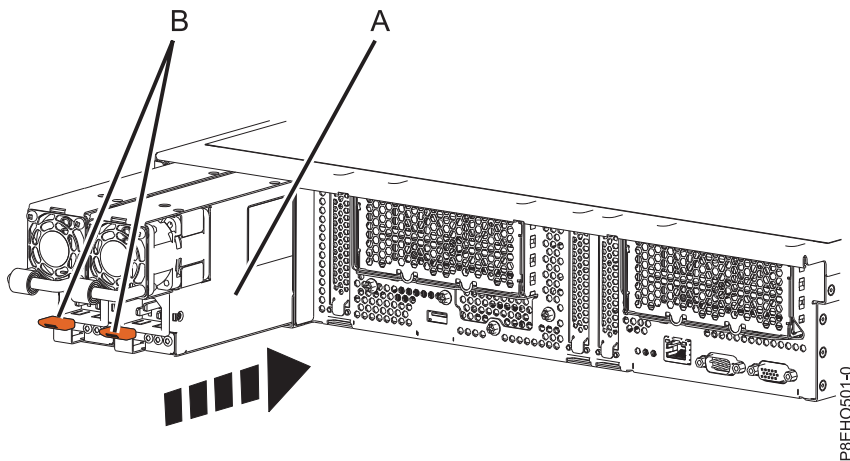

Figure 77. Replacing a power supply in the system
2. Align the power supply (A) with the bay and slide the power supply into the system until the terracotta latch (B) locks in place. See Figure 77.